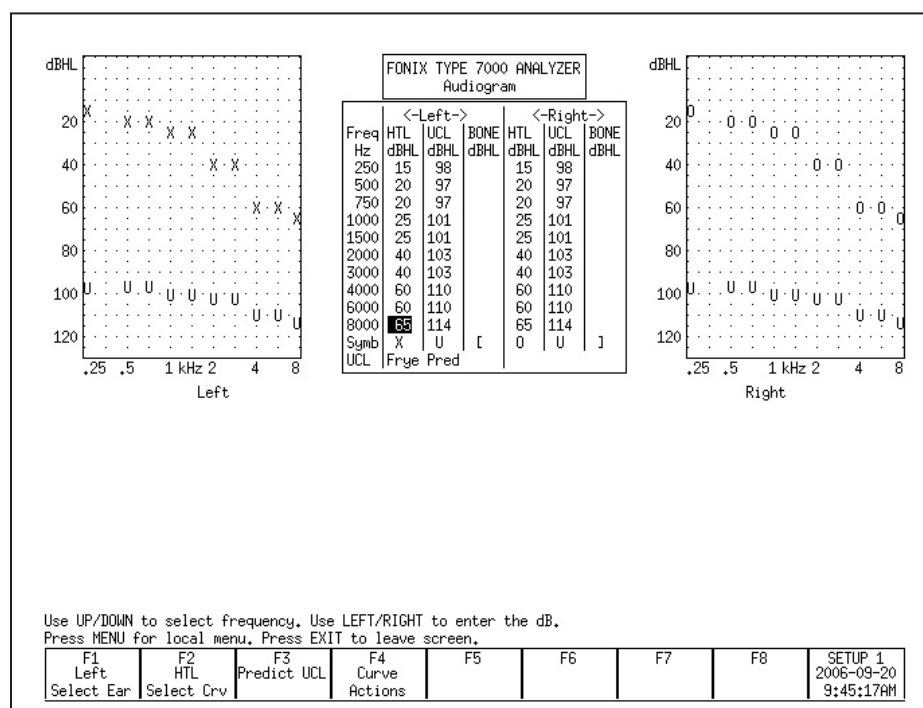

Figure 6.3.1—Audiogram Entry screen
2. Press [F1] to enter the Audiogram Entry screen. See Figure 6.3.1.